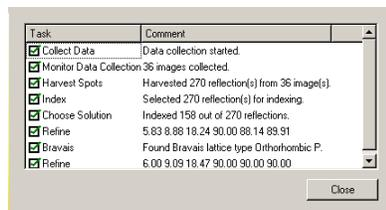

Figure 6.5 – Completed progress list
5. When automatic unit cell determination is complete, the progress list will show a check mark and comments for each completed step (Figure 6.5).